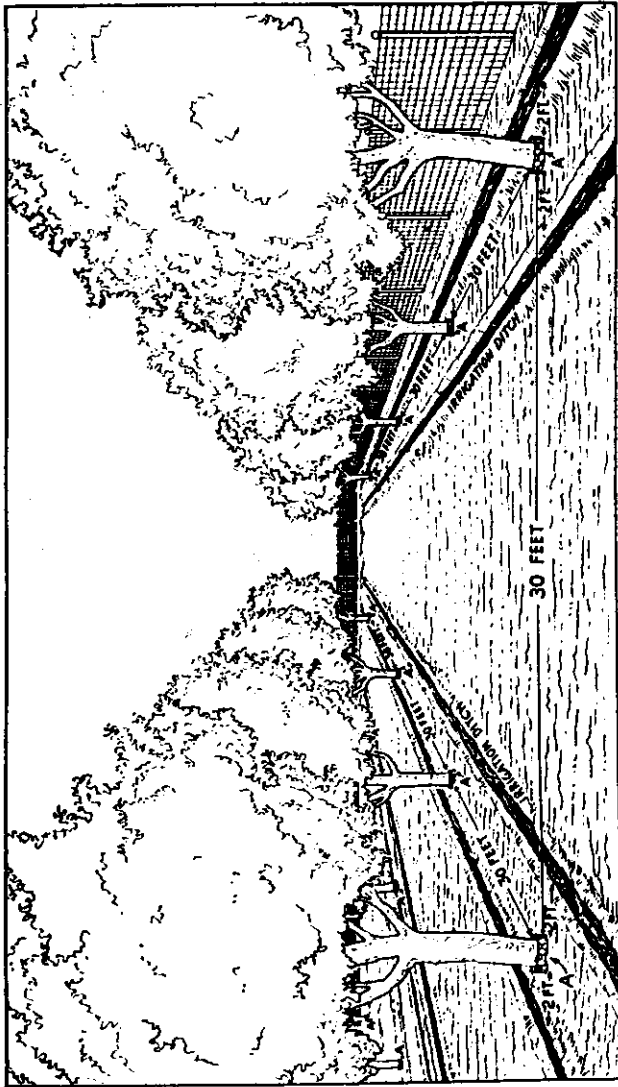

Figure 3
Figure 3, shows the ideal plan for an orchard, or fruit-tree grove. It will be seen that each tree is about 30 feet distant from each other in all directions. By setting them out in the manner illustrated, the trees will do better in every way. They will not do so well set irregularly, or placed too closely together. The rows should be set out by the compass, so the trees line up North-South and East-West. The *Cosmo-Electro-Cultural* benefits are greatly augmented by following out this plan.
*ergy-Condensers* can be seen with the selvage end up and encircling each tree. (A, Figure 3)